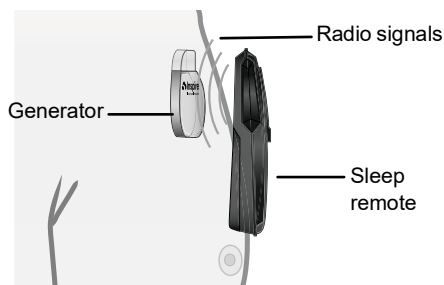

Figure 2. Communication between sleep remote and generator
2. Activate therapy by pressing the Therapy On/Pause button while holding the remote over the Inspire generator as shown in Figure 2. This will trigger a single stimulation pulse which should cause the patient's tongue to move forward. You may hear 2 beeps to confirm the device has turned on and the status ring will change to pulsating green.
4. Turn the therapy off by pressing the Therapy Off button as shown in Figure 1 while holding the remote over the Inspire generator as shown in Figure 2.